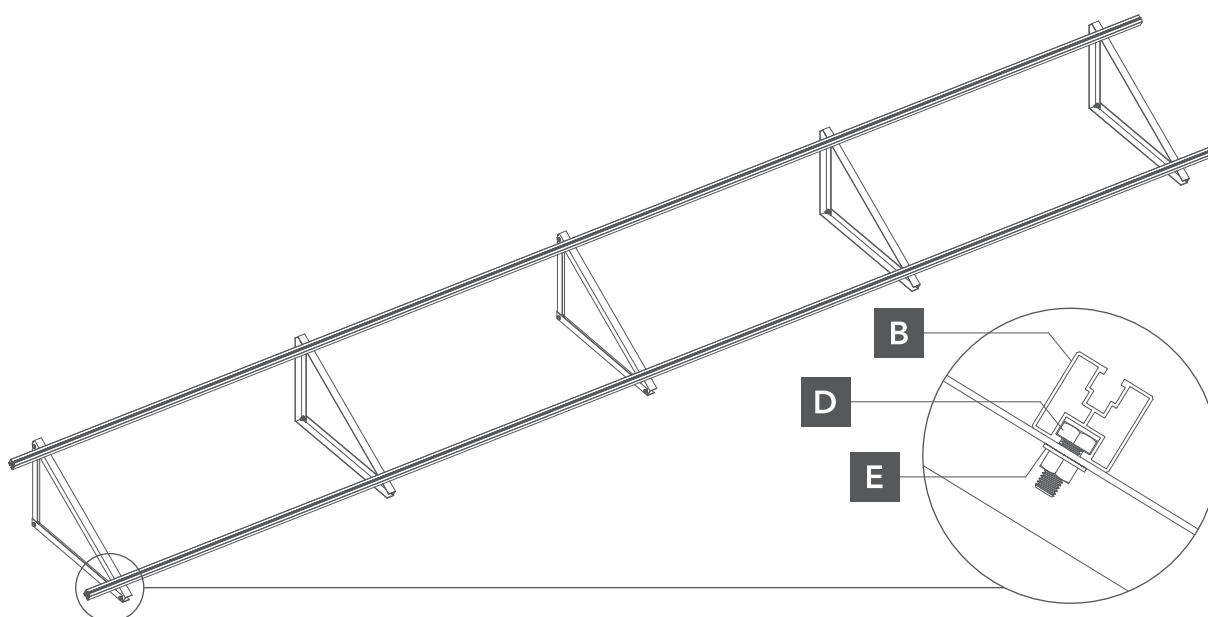

Fig. 3. fastening of the rail to the mounting triangle
- 2 Then you should pass one end of the hexagonal rail through one of the corners of the mounting triangulum, align it and tighten it with the sleeve nut (Fig. 3).